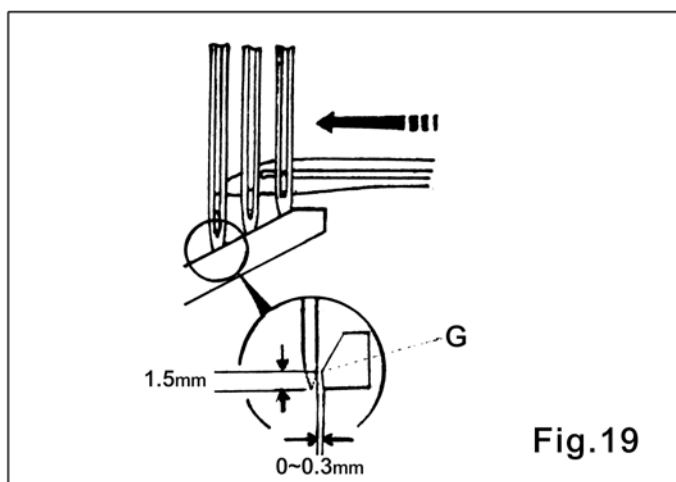

Fig.19
1. When the tip of Looer moves to the center of left needle, the distance of the tip of left needle pass the line (G) of Front Needle Guard is about 1.5mm. This is the height of Front Needle Guard. The clearance between the Front Needle Guard and right needle is about 0.3mm. (Fig.19)
1. When the tip of Looper moves to the center of left needle, the distance of the tip of left needle pass the line (G) of Front Needle Guard is about 1.5mm. This is the height of Front Needle Guard. The clearance between the Front Needle Guard and right needle is about 0.3mm. (Fig.19)